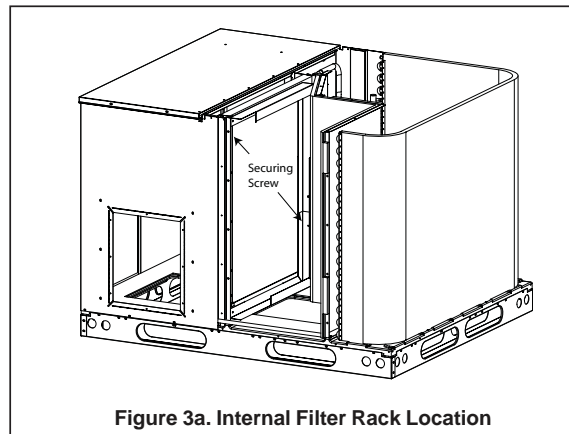

Figure 3a. Internal Filter Rack Location
Removal of Internal Filter Rack — First remove the Return Air Panel from the unit. Remove the height adjustment screw from the inside of the rack, and the (1) screw securing the assembly to the coil located on the left leg of the rack. The assembly can easily be collapsed and removed from the unit. See Figure 3a for filter rack securing screw locations.